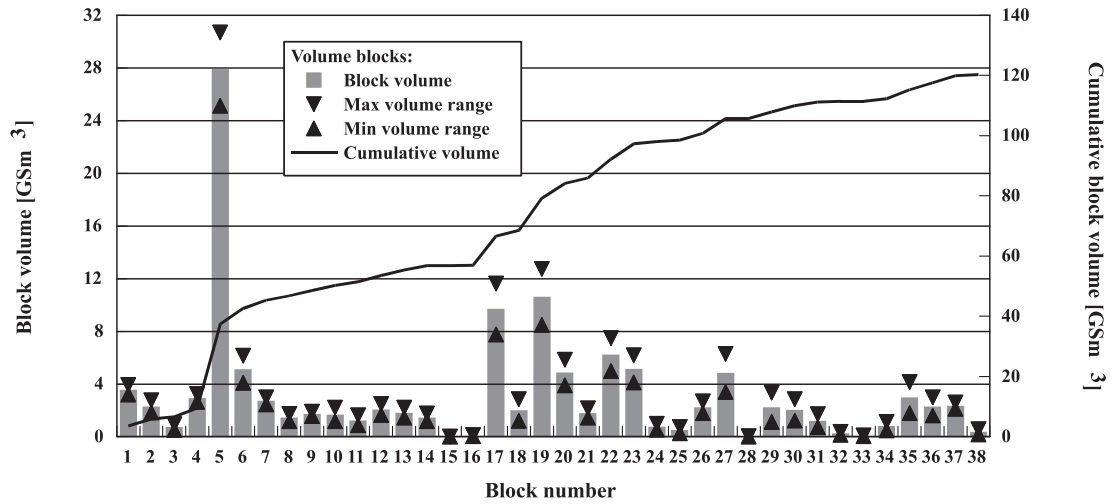

Figure 2: Gas in volume-blocks and uncertainty in gas volume.
In Figure 2, the reservoir volumes in a gas condensate field containing 38 reservoir blocks are presented. The various reservoir volumes contain quite different volumes of gas.
9. Based on the reservoir volumes in Figure 2 and the assumption that 8 wells would sufficiently produce the gas from the field, suggest location of reservoirs where the wells should be located and the sequence of well production.